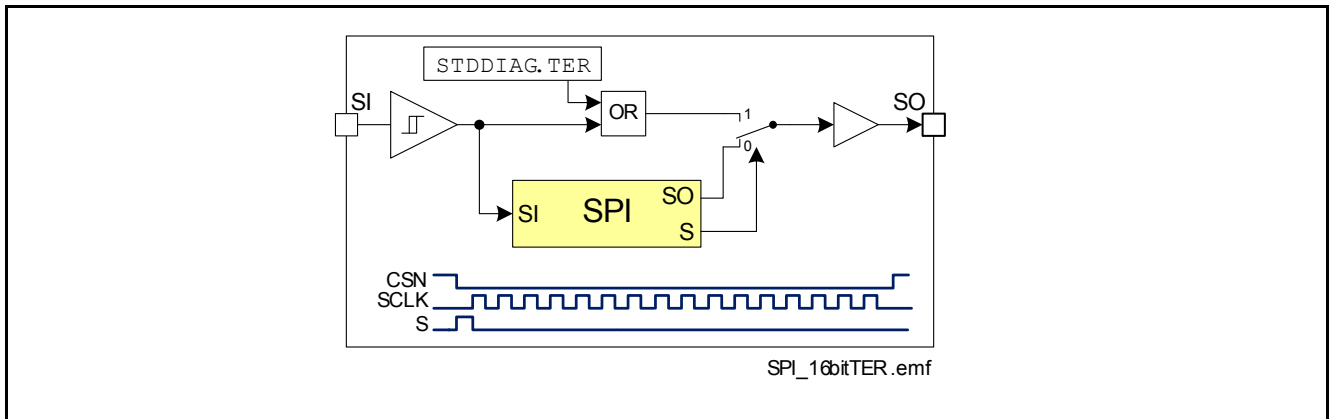

Figure 30 Combinatorial Logic for TER bit
- TER Flag will set the Bit number 10 in the STD diagnosis Frame. This Bit is set to HIGH after an undervoltage condition, reset via SPI command, on Limp Home state entering or after an incorrect SPI transmission. TER Flag can be read also directly on the SO line between the falling edge of the CSN and the first rising edge of the SCLK according to the Figure 30.